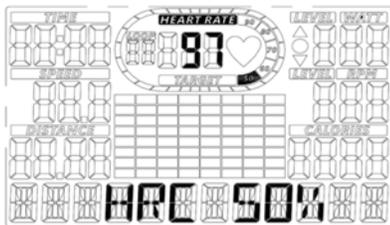
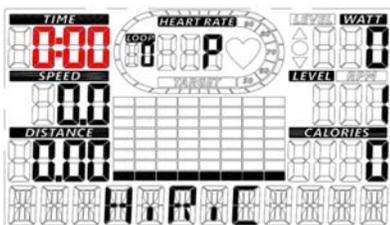

Fig. 32
Fig. 38
- To set percentage, press UP(▲)/DOWN(▼) buttons to choose 50%, 60%, 70%, 80%, 90% or TARGET mode (Fig. 32~37). The PULSE window will show the corresponding target H. R. value. When finish, press "SET" button to go to next step for TIME setting (Fig. 38).